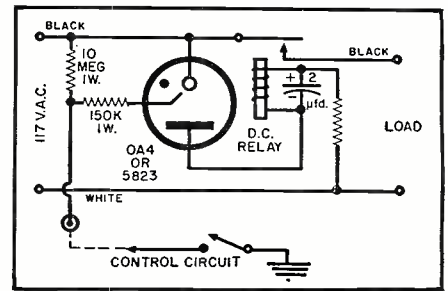

Fig. 3. An improved version of Fig. 2 which requires no standby power and uses three resistors, a capacitor, and a glow tube.
The circuit of Fig. 3 is suggested as an alternative to that of Fig. 2. The Fig. 3 arrangement calls for the use of three resistors, a capacitor, and a grid glow tube at the switching location. These parts cost about the same as the transformer they replace. The system has the following advantages:
1. In the transformer system. Fig. 2, fairly heavy wire is required in the control circuit and the possible distance to the control point is limited by voltage drop in wiring due to the relatively high control current required at the low operating voltage. The relay tube system of Fig. 3, by contrast, is practically immune to series resistance in the control circuit; at least until that resistance approaches the megohm region. As a result, fine wire may be used and it may be run for great distances. Steel wire or resistance wire will work as well as copper, provided only that it is well insulated. With many individual grid glow tubes, particularly when they are comparatively fresh, it is even possible to dispense with the control switch and close the circuit through the dry skin of one's hand. For example it is possible to cement a small electrode on the handle of a spray gun, the gun itself being grounded, so that the associated compressor will start up automatically whenever the spray gun is grasped around the handle.
3. If properly constructed, the Fig. 3 arrangement is quite safe. The high resistance isolates the control circuit